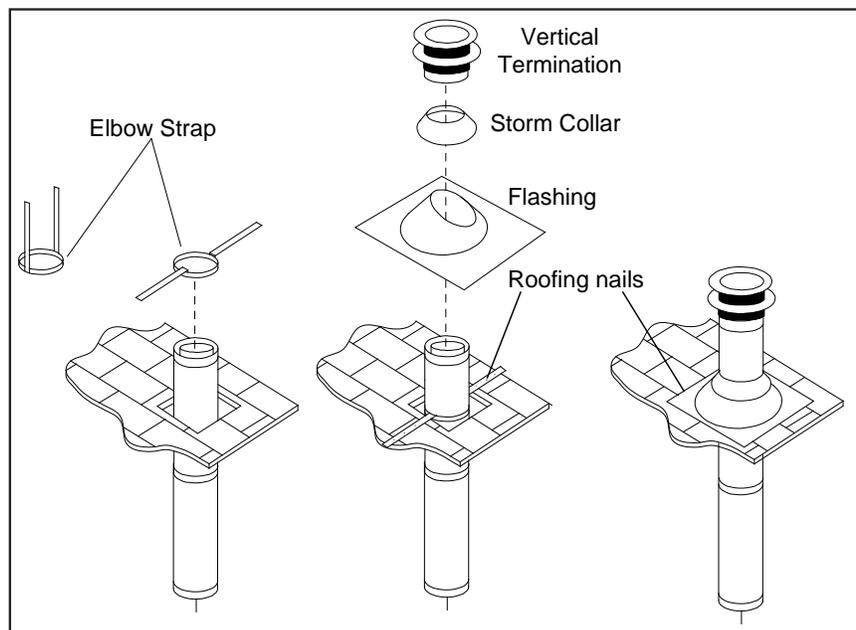

Figure 35. Vertical Vent Termination
- STEP 6.** Once the pipe sections have been joined, and run up through the hole in the roof, slip an elbow strap over the exposed sections, bend the support straps outwards, and push the elbow strap down to the roof level, as shown in Figure 35. Tighten the clamp around the pipe section. Use a level to make sure the pipe is truly vertical. With roofing nails, secure the support straps to the roof. Seal the nails holes heads with non-hardening mastic. Trim the excess length of the support straps that extend out beyond the edge of the flashing.
- STEP 9.** Slip the storm collar over the pipe, and push it down to the top of the roof flashing as shown in Figure 35. Use the non-hardening sealant around the joint between the pipe and the storm collar.
Table 7: Minimum 'H' for Figure 35.